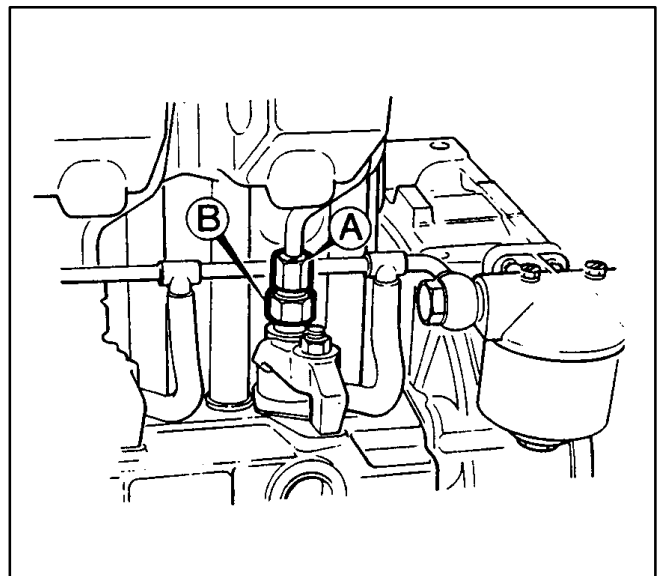

FIGURE 8-38. PRIMING A FUEL PUMP
1. Hold the delivery valve holder (Figure 8-38, Item B) with a wrench and loosen the fuel injector pump delivery tube fitting nut (A) until no air bubbles are expelled.